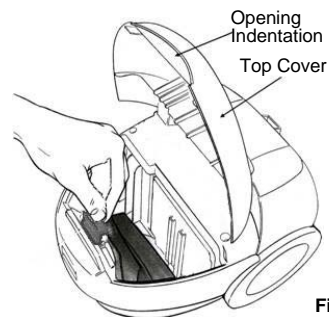

Fig. 15
1. To open main unit, pull up on the opening indentation. (Fig. 15)